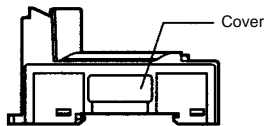

Figure 1
1. Remove the cover from the side of the Communications Terminal SRT1-T□D04S. (See Figure 1.)